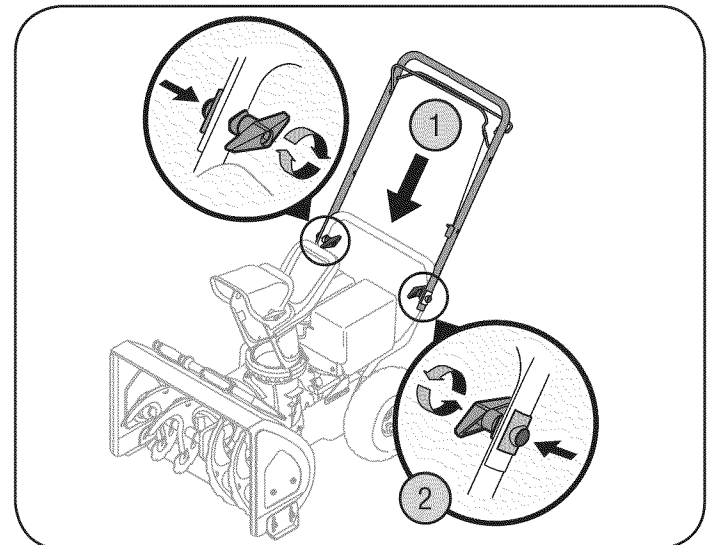

Figure 2
3. Lift the upper handle up and position it over the lower handle, aligning the holes where the wing knobs were removed (1). See Figure 2.
4. Insert a carriage screw from the outside through a handle tab, the upper and lower handles, a saddle washer and into the wing knob (2). Repeat on the other side.
5. Tighten the wing knobs on each side of the handle. Refer to Figure 2.